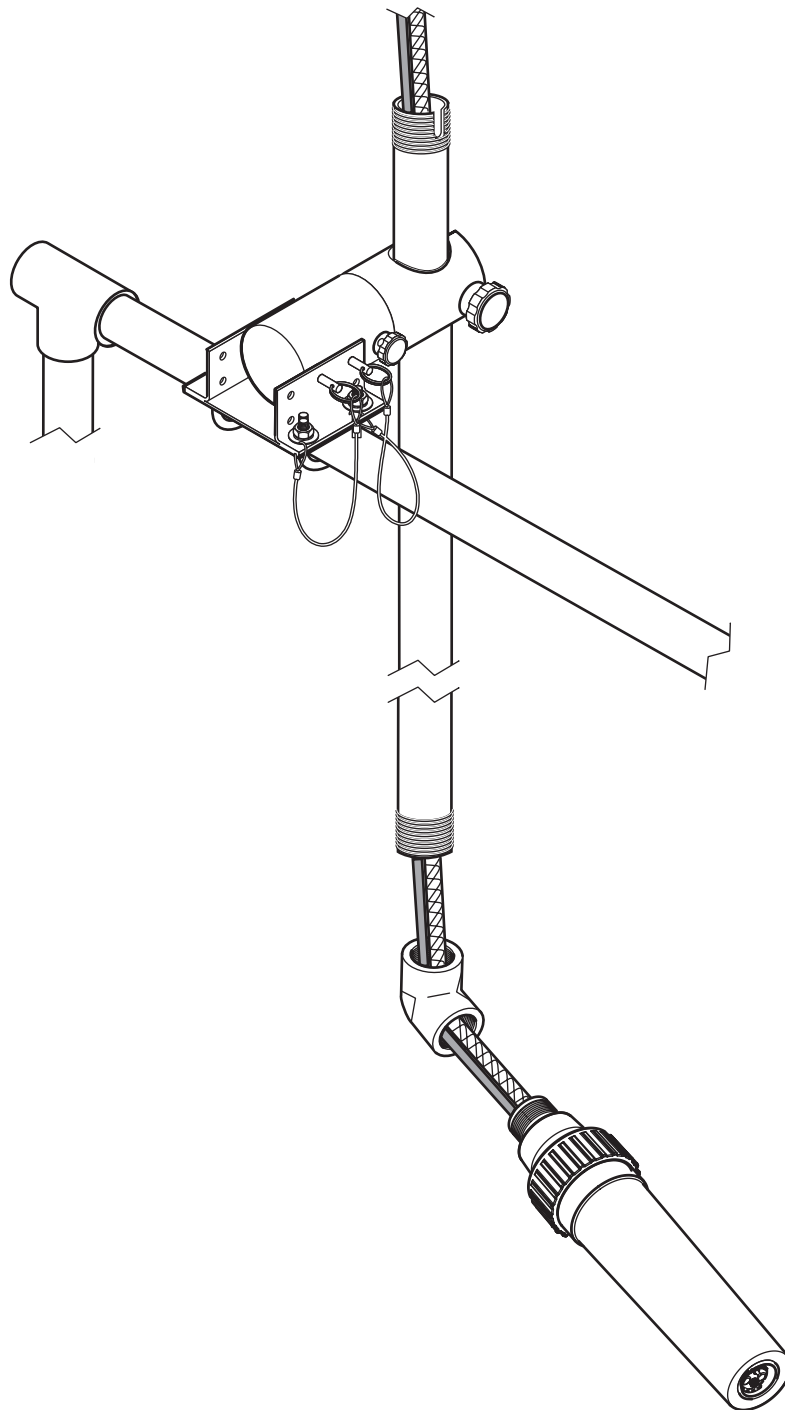

Figure 8: Installing the cleaning unit
- Installing the sensor with a cleaning unit—Guide the sensor cable and the air tubing through the elbow and the immersed pipe. Bolt all pieces together (Figure 8: on page 9).